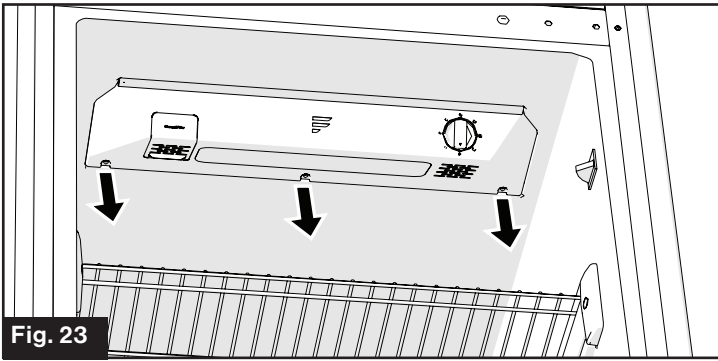

Fig. 23
1. Unscrew the three screws (Fig. 23)